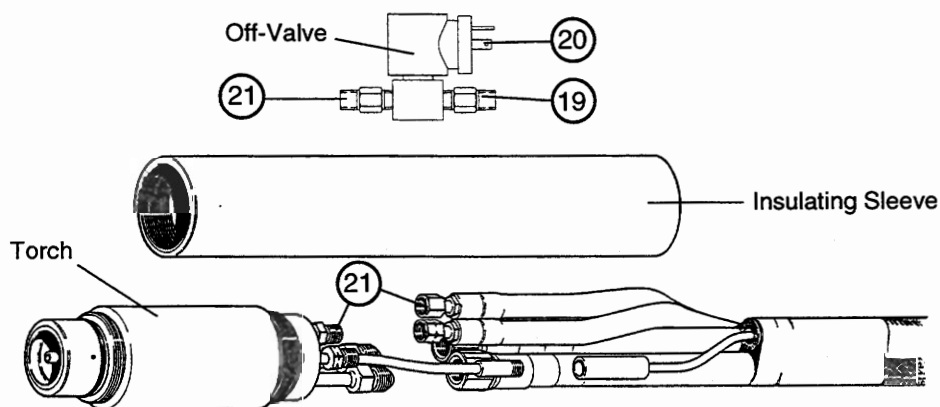

Figure 3-3 Torch Connections -2 of 2
1. Connect one end of the off-valve hose to the remaining lead fitting of the torch. Use 7/16" open-end wrenches to tighten this connection. (Fig. 3-3, 2 of 2)
3. Connect the other end of the off-valve hose to the off valve. (Fig. 3-3, 2 of 2)
4. Connect the other end of the plasma gas hose to the off valve. (Fig. 3-3, 2 of 2)
5. Connect the off-valve cable to the off valve. (Fig. 3-3, 2 of 2)